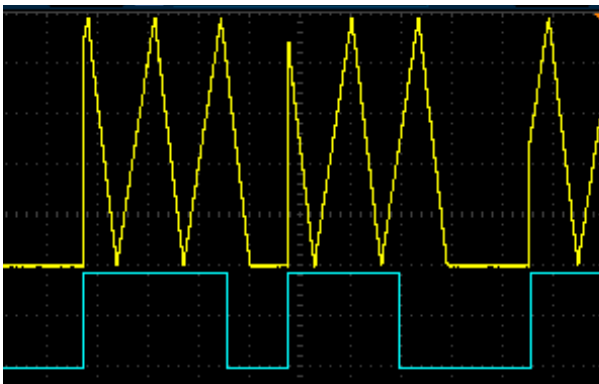

Figure 3: Pressing Cycle button
1. **Cycle Button** — Press the button to toggle Cycle mode on/off. When this button is lit up, the envelope will be free-running. In Cycle mode, the envelope will start on the ping clock (unless you gave an Async trigger, see below... Pressing this button after an Async pulse will make the envelope re-sync.) As soon as the button is pressed, the PEG calculates where in its cycle the envelope should be so that it ends on the next ping clock, and starts outputting the envelope from this point. See Figure 3.